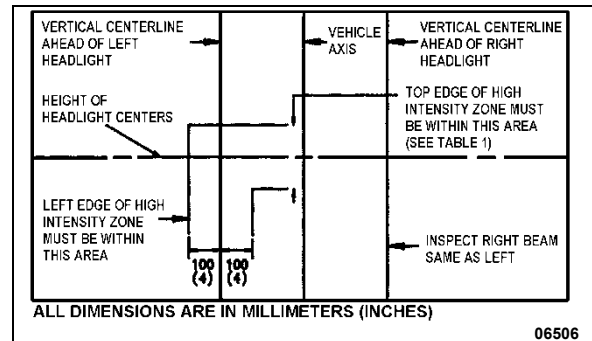

FIGURE 57: AIM INSPECTION LIMITS FOR LOWER-BEAM HEADLIGHTS
7. The inspection limits in the vertical direction for low-beam headlights or the low beam of a dual-beam headlight, shall be as described in Table 1. In the horizontal direction, the left edge of the high-intensity zone shall be located from 10 cm (4 in) left to 10 cm (4 in) right of the vertical centerline of the beam. The viewing screen shall be located 7.6 m (25 ft) in front of the vehicle (Figure 57).